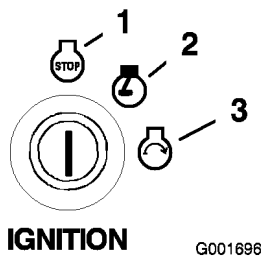

Figure 12
6. Turn the ignition key to Start. When the engine starts, release the key (Figure 12).
4. Turn the ignition key to the off position and remove the key (Figure 12).